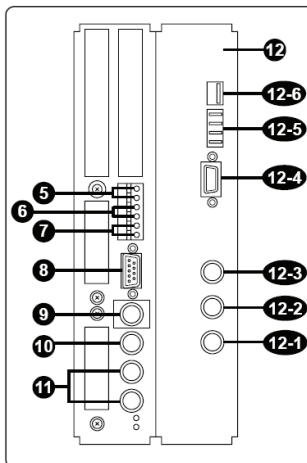

Figure 4.17. Shimadzu GC-2014 Back View Diagram
- Red wire to pin 1 (top pin labeled **5** in Figure 4.17)
- Black wire to pin 2 (second pin in group **5** in Figure 4.17)
NOTE: The following numbers are connections as shown in Figure 4.17.